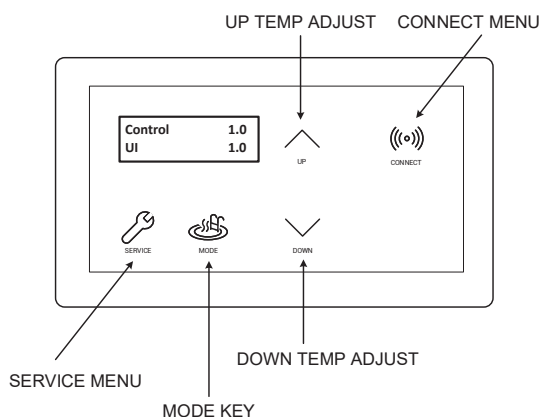

Figure 10. Heater Control Display
The heater display is located in the front panel of the heat pump, covered with a door. All operation and settings of the heater control are accomplished through the use of the five (5) touch keys of the user interface. These keys are displayed in Figure 10.